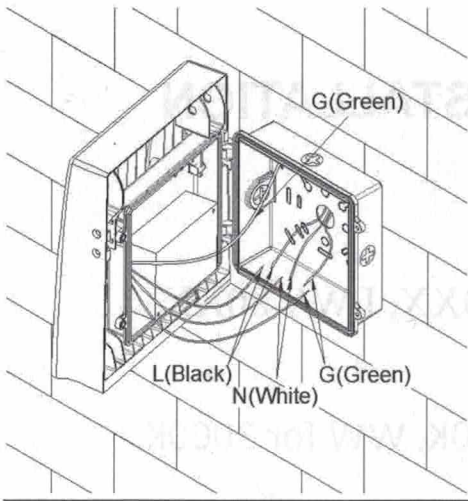

FIG.2
3. Hang the fixture on the back plate. Connect wires into wiring terminal; white wire to "Neutral" terminal, black wire to "Live" terminal, green wire to "Ground" terminal; connect the ground wire to the back plate. See figure 2. Please mention the main specification as following before wiring. (See Table 1)